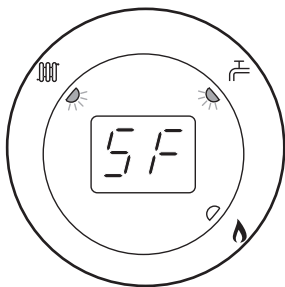

Fig. 36
4. The display will now alternate between 'SF' and the current boiler temperature and both green LEDs will flash (Figs. 36 & 37).